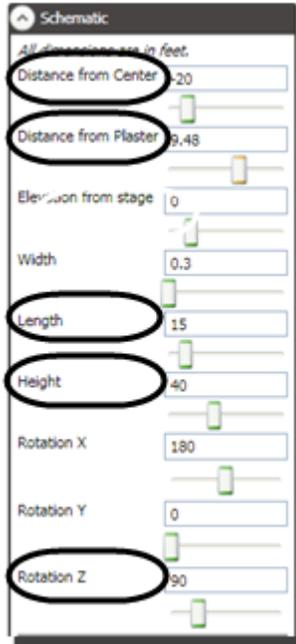
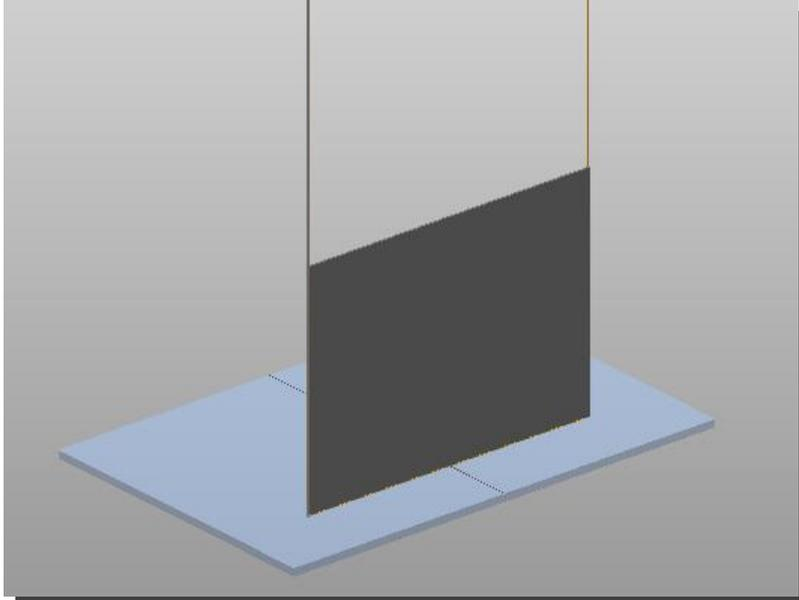

Figure 285
Figure 286
- By adjusting the **Rotation Z**, **Distance from Center**, **Distance from Plaster**, **Length** and **Height** fields, you can change the horizontal traveler curtain into a vertical flying curtain (Figure 285 and Figure 286).